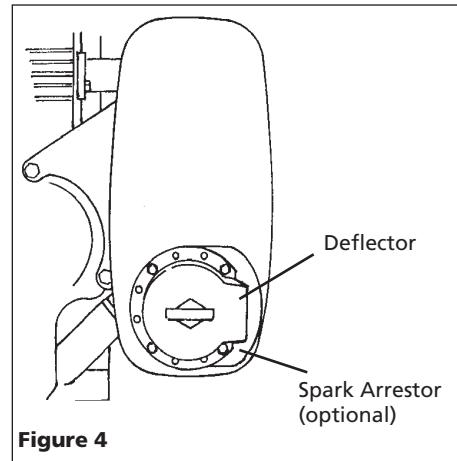

Figure 4
11. Coat four self-tapping screws with anti-seize compound. Install spark arrester and deflector as shown in Figure 4.